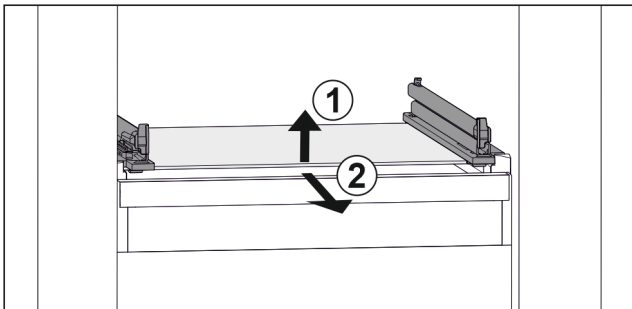

Fig. 121 Example illustration of glass shelf
- ▶ Lift glass shelf at the front. Fig. 121 (1)
- ▶ Take out glass shelf to the front. Fig. 121 (2)